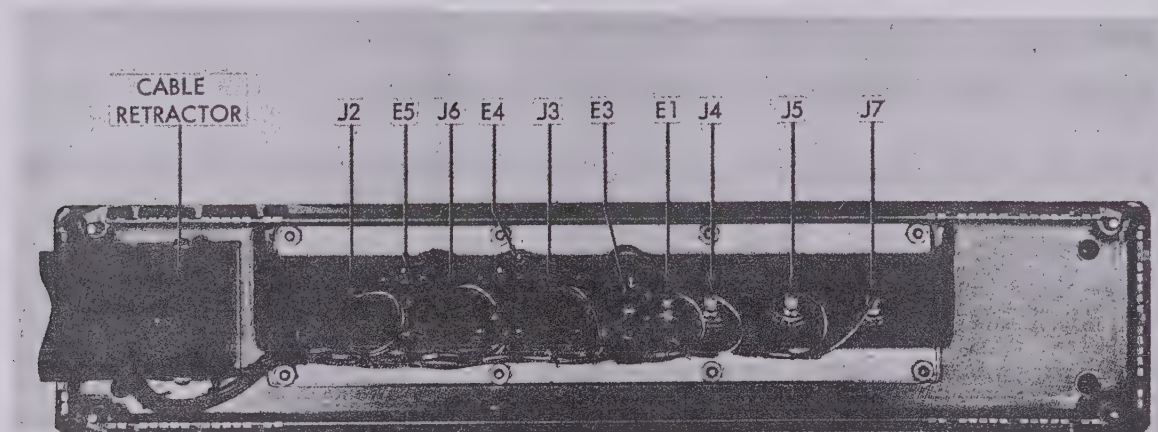

Figure 2-6. Frequency Shift Converter CV-483/URA-17, Cable Receptacle Panel, Interior View
(3) AUDIO INPUT LINES. - The AN/URA-17 requires 600 ohm, 60 milliwatt outputs from the associated receivers. If the receiver outputs are balanced, STANDOFF E1 in each converter should be grounded. To accomplish this, loosen the four captive screws at corners of receptacle panel, remove panel from the rear of each converter cabinet (figure 2-6), and solder a lead from STANDOFF E1 to a nearby ground terminal. If the receiver outputs are unbalanced (one side grounded), leave STANDOFF E1 ungrounded.
(4) POWER TRANSFORMER CONNECTIONS. - The AN/URA-17 is shipped from the factory with power transformers T3 and T4 in each converter connected for a nominal line voltage of 115 volts. If nominal line voltage is 105 volts, the leads con-